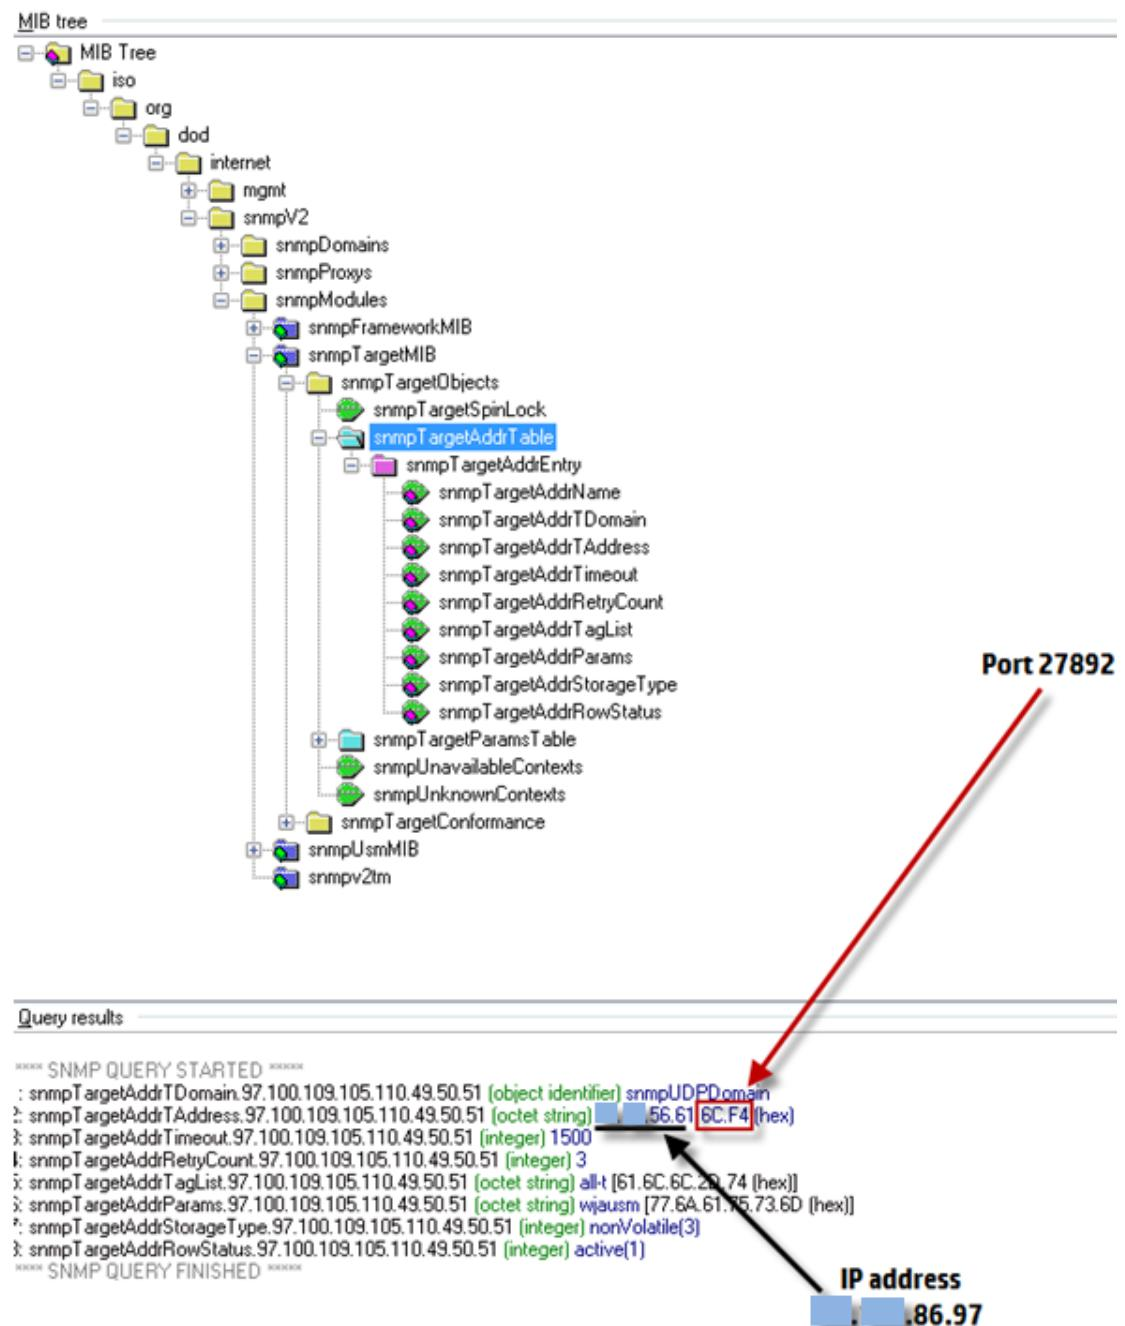

Figure 13—SNMP walk on snmpTargetAddrTable
3. Perform an snmpwalk on snmpTargetAddrTable 1.3.6.1.6.3.12.1.2 (Figure 13).